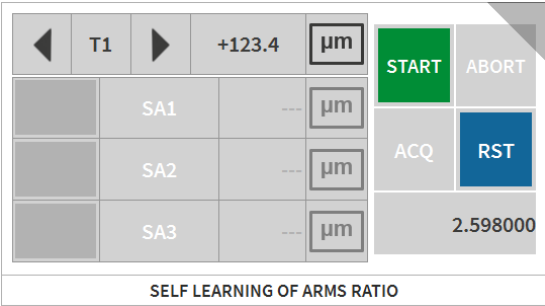

Fig.107. Arm ratio self-learning widget
-  The arm ration self-learning is performed using the widget in Fig.107: